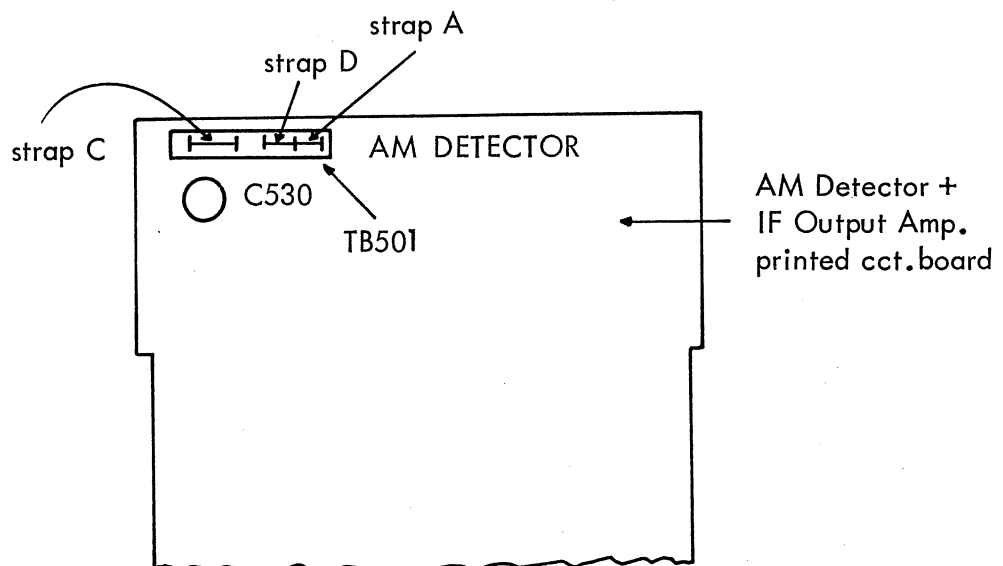

Fig. G3.
- 86) Replace the strap A and disconnect the straps C and D (shown in Fig.G3) on the AM DETECTOR printed circuit board.